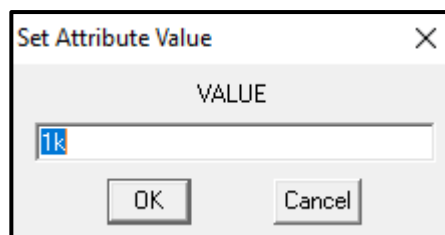

Figure.8
- To change a part value e.g. resistance, voltage source ... etc. double click on its value and the window in figure.8 will show up, type the value you want inside the box then click ok.